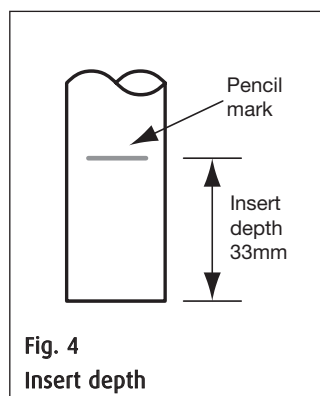

Fig. 4
- Make sure each hose connection is fully inserted into the inlet and outlet ports of the pump. When connecting to the pump hoses, make sure connecting pipe is fully inserted to a minimum depth of 33mm (1¹/₄"). Failure to fully insert connections will cause leaks (See Fig.4)